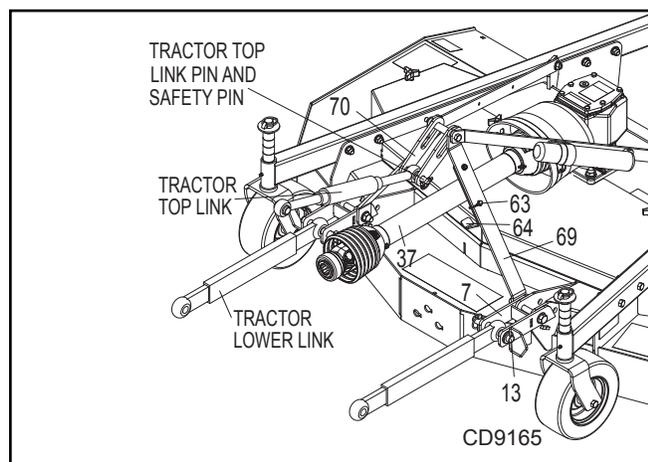

Figure 2. Attachment Points
## Category 1 Hitch (Figure 2 & 3)
2. Connect tractor lower lift arms to mower lower hitch links (7) using clevis pin (13) and retain with klik pin. (See Figure 2)
3. Connect tractor top link to mower top hitch links (70) using tractor top link pin. Retain with cotter or klik pin.
5. Remove the mower driveline (37) from the holder (64) and connect to the tractor PTO shaft. Be sure the driveline QD is seated firmly in the tractor PTO spline groove.
7. Remove the safety pin (63) from the left a-frame bar (69) and swing the drive holder (64) up into the storage position. Reinsert safety pin thru a-frame bar and drive holder to secure in place. (See Figure 2).